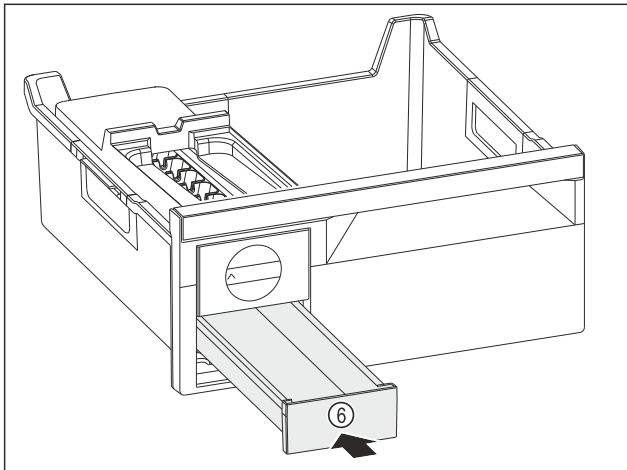

Fig. 117
- Insert the ice cube drawer Fig. 117 (6).